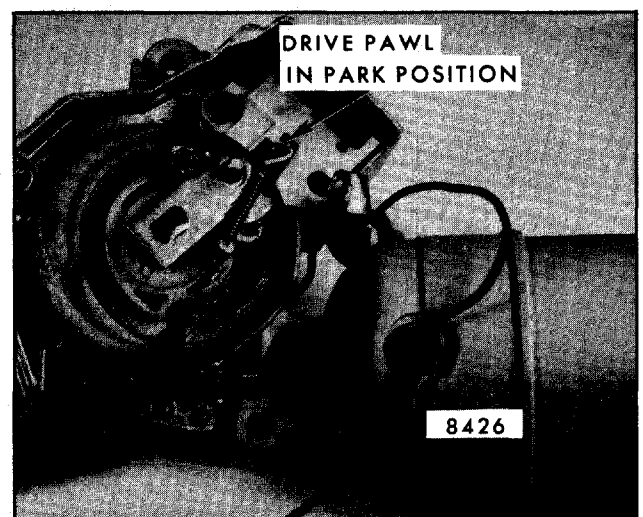

Fig. 2-62-Drive Pawl in Park
1. It causes the gear assembly drive pawl to push the relay latch arm into the relay housing (Fig. 2-62), which in turn opens the relay switch contacts. This opens the B plus circuit to the